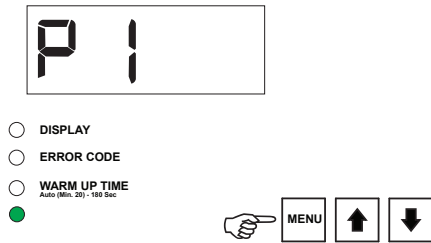

Figure 38. Pressure Adjustment
12. The display will now read "P1" (Figure 38). Press the **MENU** button again.